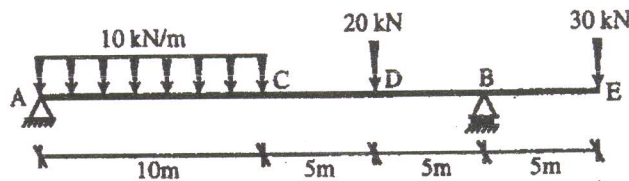

Fig.2
2. (a) The beam is supported and loaded as shown in Fig.2. Draw SFD & BMD indicating all important values.